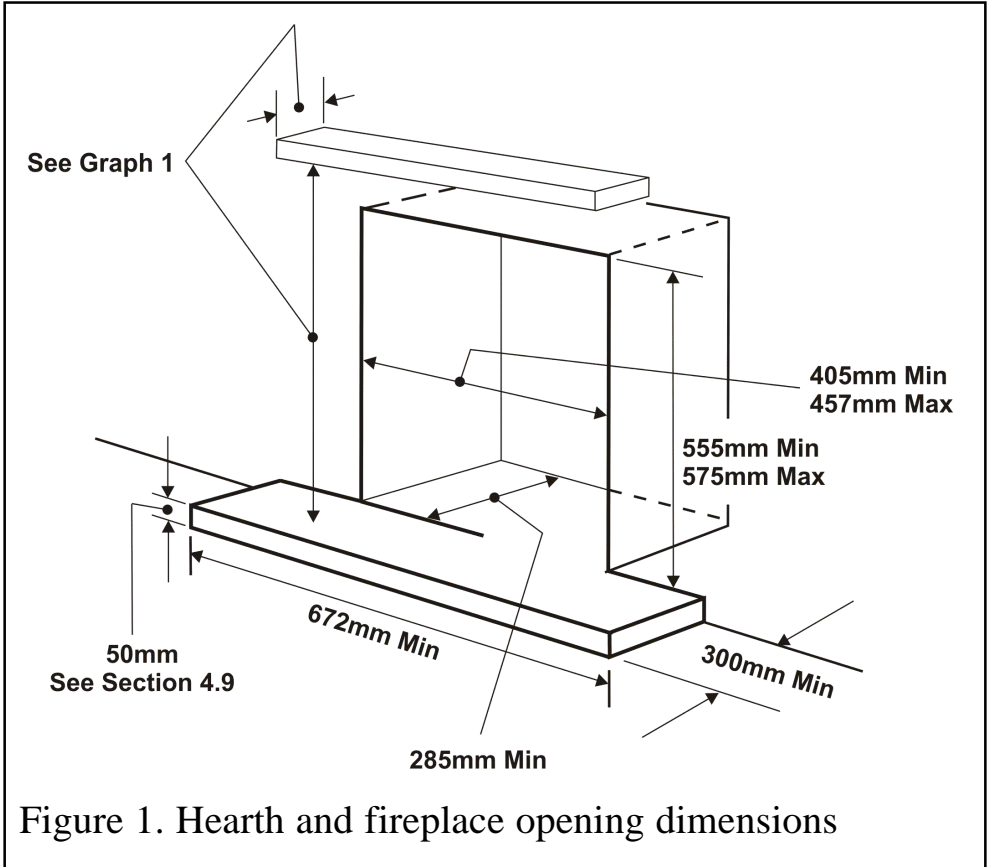

Figure 1. Hearth and fireplace opening dimensions
**4.2.1** To a fireplace complete with surround and hearth as shown in figure 1 and complying with BS1251 after removal of the fireback and sufficient material behind the fireback for a debris catchment space. The required fireplace, hearth, debris catchment
area and clearance dimensions are shown in figure 1.
- It is recommended that a hearth should be installed as in figure 1. If a hearth is not fitted, the fire must be installed so that the distance from the base of the fireplace opening in the wall to the finished floor level is at least 85mm. Where there is no floor covering or carpet and the floor is of a type that is likely to be covered in such a way in the future then the distance from the base of the fireplace opening in the wall to the floor level should be increased to at least 160mm. The minimum shelf height will have to be taken from the base of the fireplace opening.